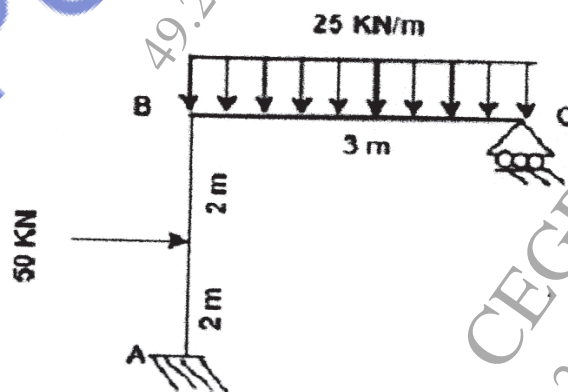

Figure 8
- Q6) Analyse the bent shown in figure 8 by stiffness method. [17]